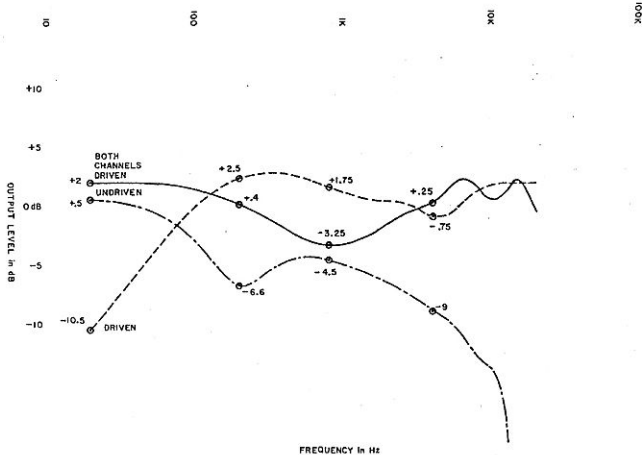

Figure 6-3. Hologram Frequency Response
- C) Referring to Figure 6-3 below, verify that the output signal levels are within  $\pm 1.5\text{dB}$  of the values indicated at each of the test points (circled). Drive one channel alone to measure the "driven" and "undriven" responses; drive both channels simultaneously to measure "both channels driven". Adjust input frequency and repeat until all 12 test points have been verified. Table 6-3 lists the acceptable ranges.